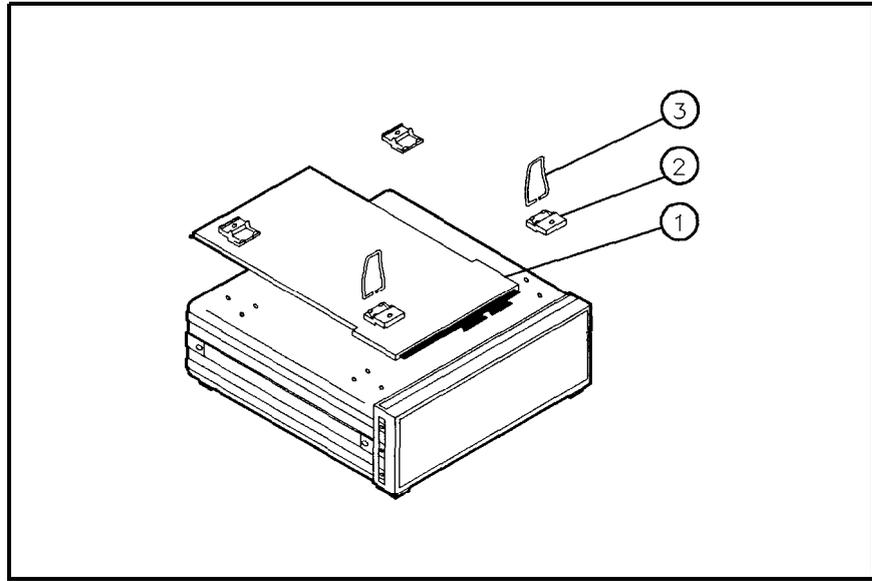

Figure 2-4. Removing the Information-Card Tray
2. Remove the three screws securing each handle, and remove the handles. See ② and ③.
3. The information-card tray located on the bottom of the RF section requires a space of approximately 2 cm below the instrument when rack mounting. See ① of Figure 2-4. (No filler strip is provided.) If you wish to remove the information-card tray, remove the feet and tilt stands (② and ③ in Figure 2-4).